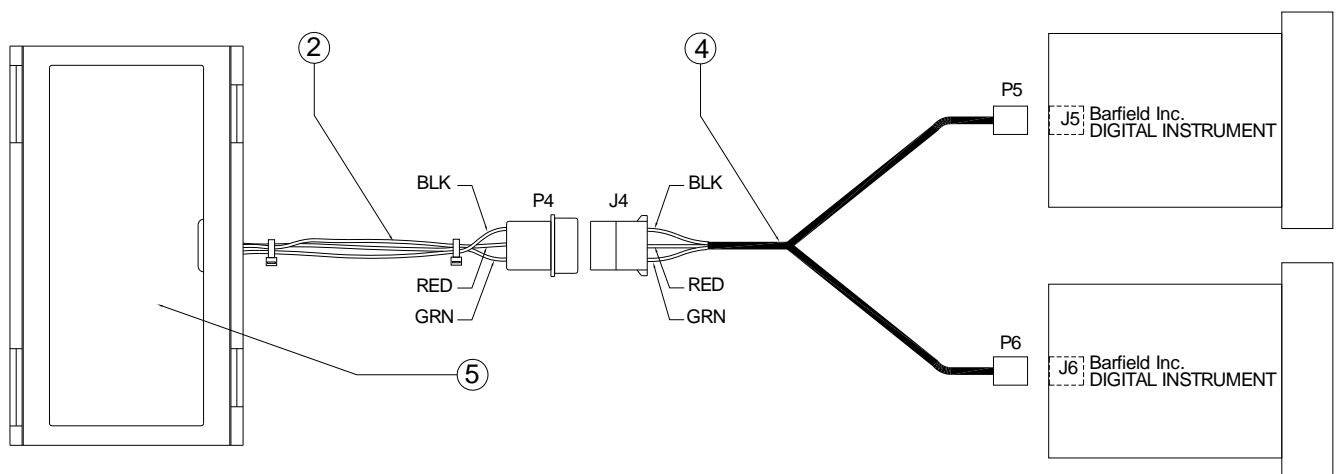

FIGURE 5
3. Feed battery pack base harness leads (Item 2, Figure 5), without the connector (Item 3, Figure 5) attached (as supplied) through center holes (A & B). Re-attach connector.
4. Connect wire harness (Item 4, Figure 5) to digital instrument(s) and battery pack base harness. (Refer to Figure 5.)
6. Insert alkaline batteries into battery pack (Item 5, Figure 5) and snap onto mounting base.